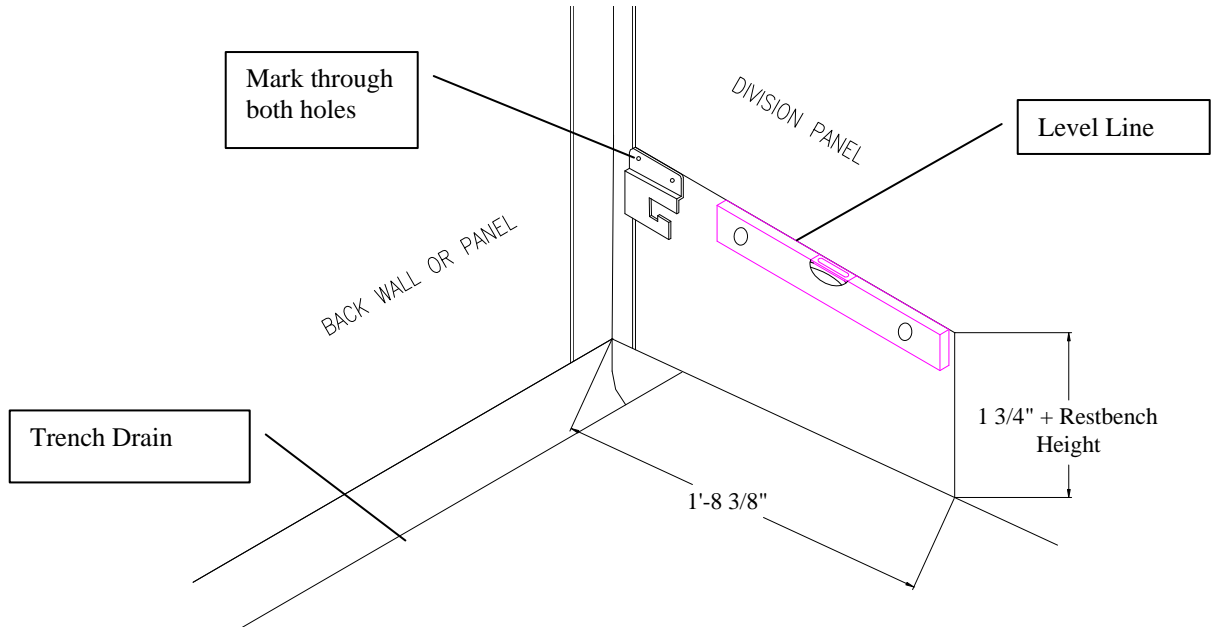

Figure 1.
1. Measure out from the back wall of the run a distance of 1'-8 3/8" and make a mark on the Division Panel (or side wall). Then measure up vertically a height of 1 3/4" plus the height of the rest bench (example: If you have a 6-3/4" high rest bench you would measure up 8-1/2"). Make a mark on the panel or side wall. Using a level, transfer the last mark you made to the rear of the division panel. Do this on both sides of the run. See Figure 1.